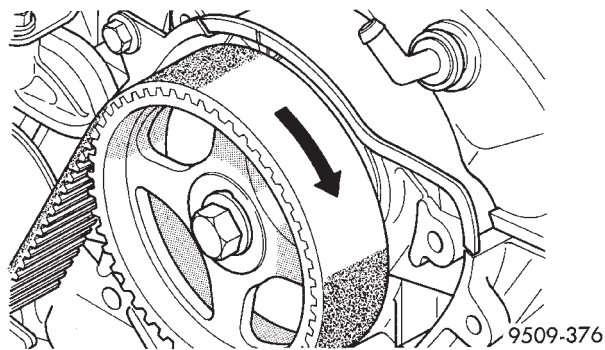

Fig. 52 Mark Direction of Timing Belt
(1) Mark belt running direction for installation (Fig. 52).